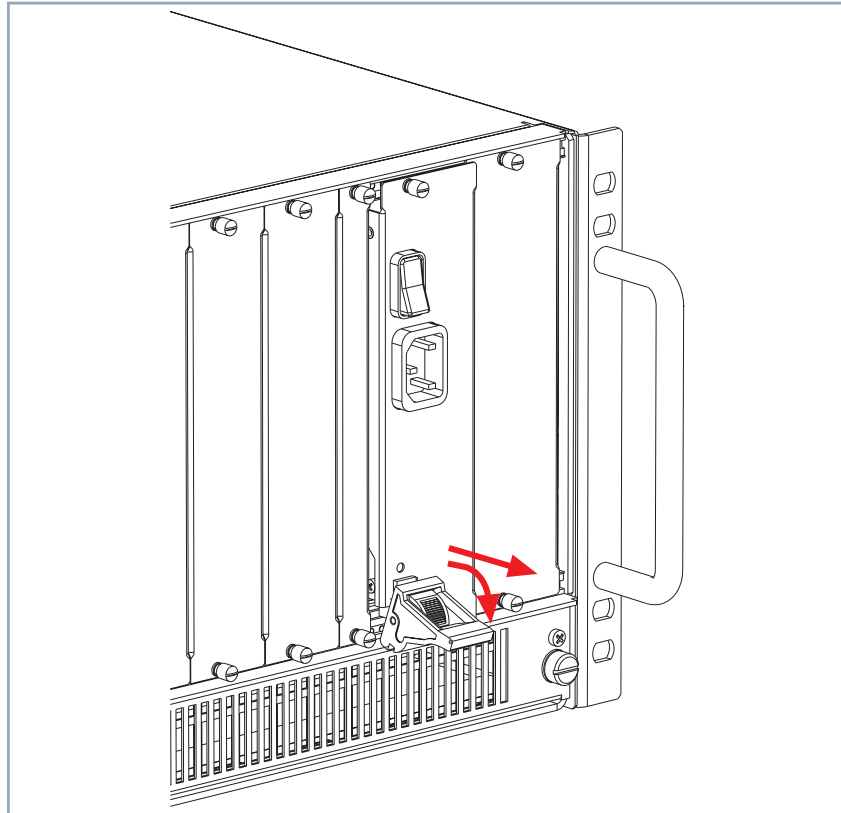

Figure 4-17: Replacing X8A-PS
- Push the injector/ejector handle (see figure 4-17, page 58) further down until the power supply unit comes out of its position.